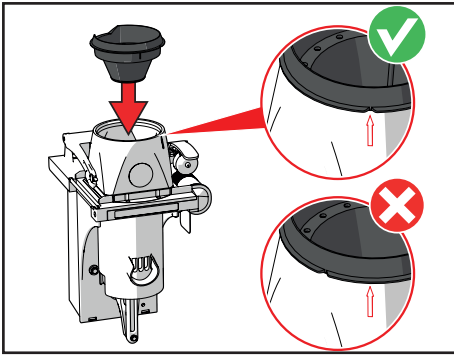

Figure 44. Replace funnel
10. Place the funnel back into the mixing bowl, with the recess above the arrow. (see Figure 44).